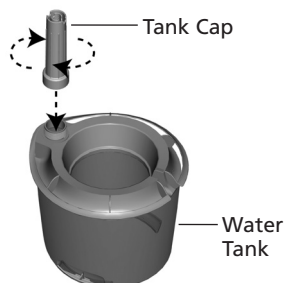

Figure 11
5. Replace the Tank Cap by screwing it clockwise onto the Water Tank. See Figure 11.